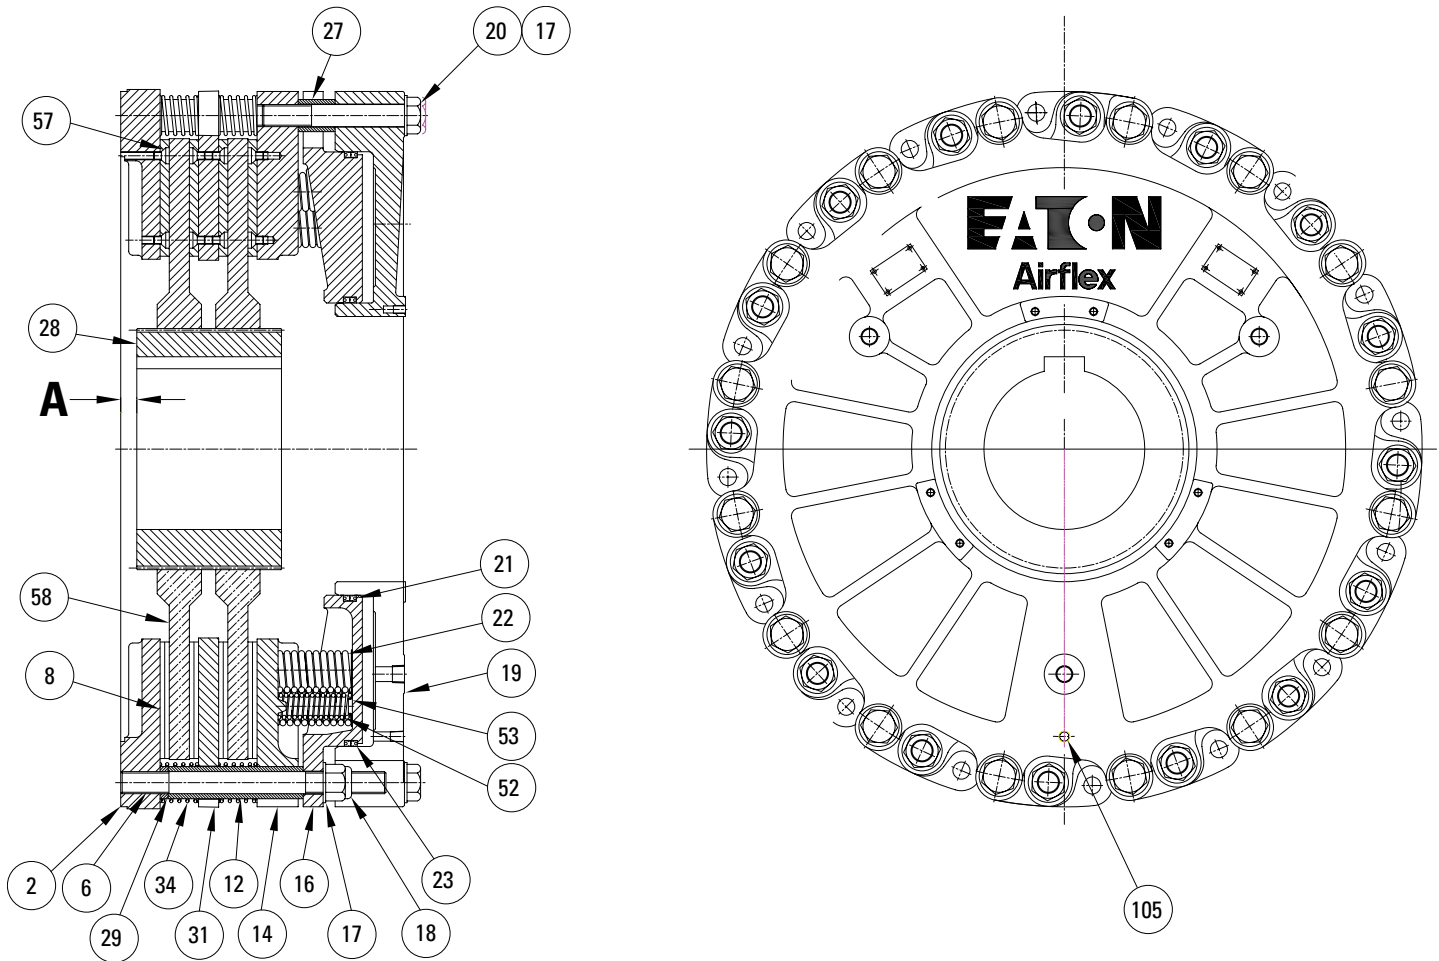

Figure 1 (2 Disc DBBS)
1.2.1 Referring to Figure 1 and Table 1, the gear (28) is mounted on the shaft which is to be stopped. The brake assembly is attached to the machine frame or reaction bracket. As air pressure is applied through the ports in the cylinder (19), the cylinder and pressure plate (14), which are attached to each other with screws (20), flat washers (17) and spacer tubes (27), move away from the mounting flange (2), which is connected to the machine frame or reaction bracket. The pressure plate compresses the springs (22) (52) against the stationary spring housing (16) and the clamp force is removed from the discs (58) which ride on the gear. The shaft is then free to rotate.
- 2.2.4 To install the gear, heat uniformly to approximately 250°F (121°C), prior to pressing the gear onto the shaft. Making sure the dimension between the gear and brake mounting surface ("A") is held at 1.00" (25.4) for sizes 20DBBS, 25DBBS and 38DBBS and 2.00" for size 50DBBS. See Figure 1.